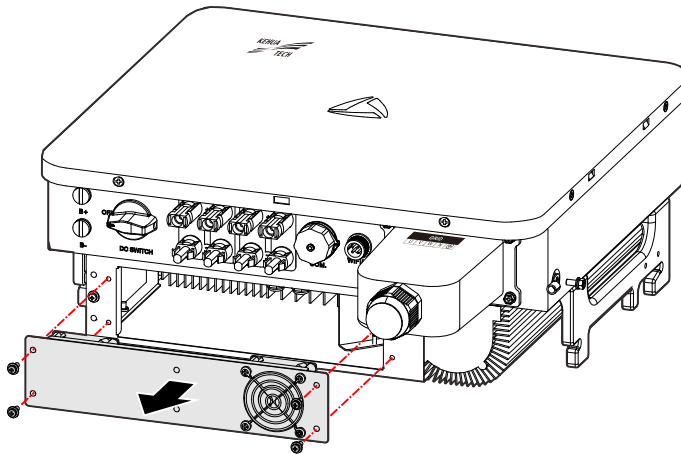

Figure5-1 Dismantle the cover plate
- Step 5 Dismantle the cover plate, as shown in Figure5-1.